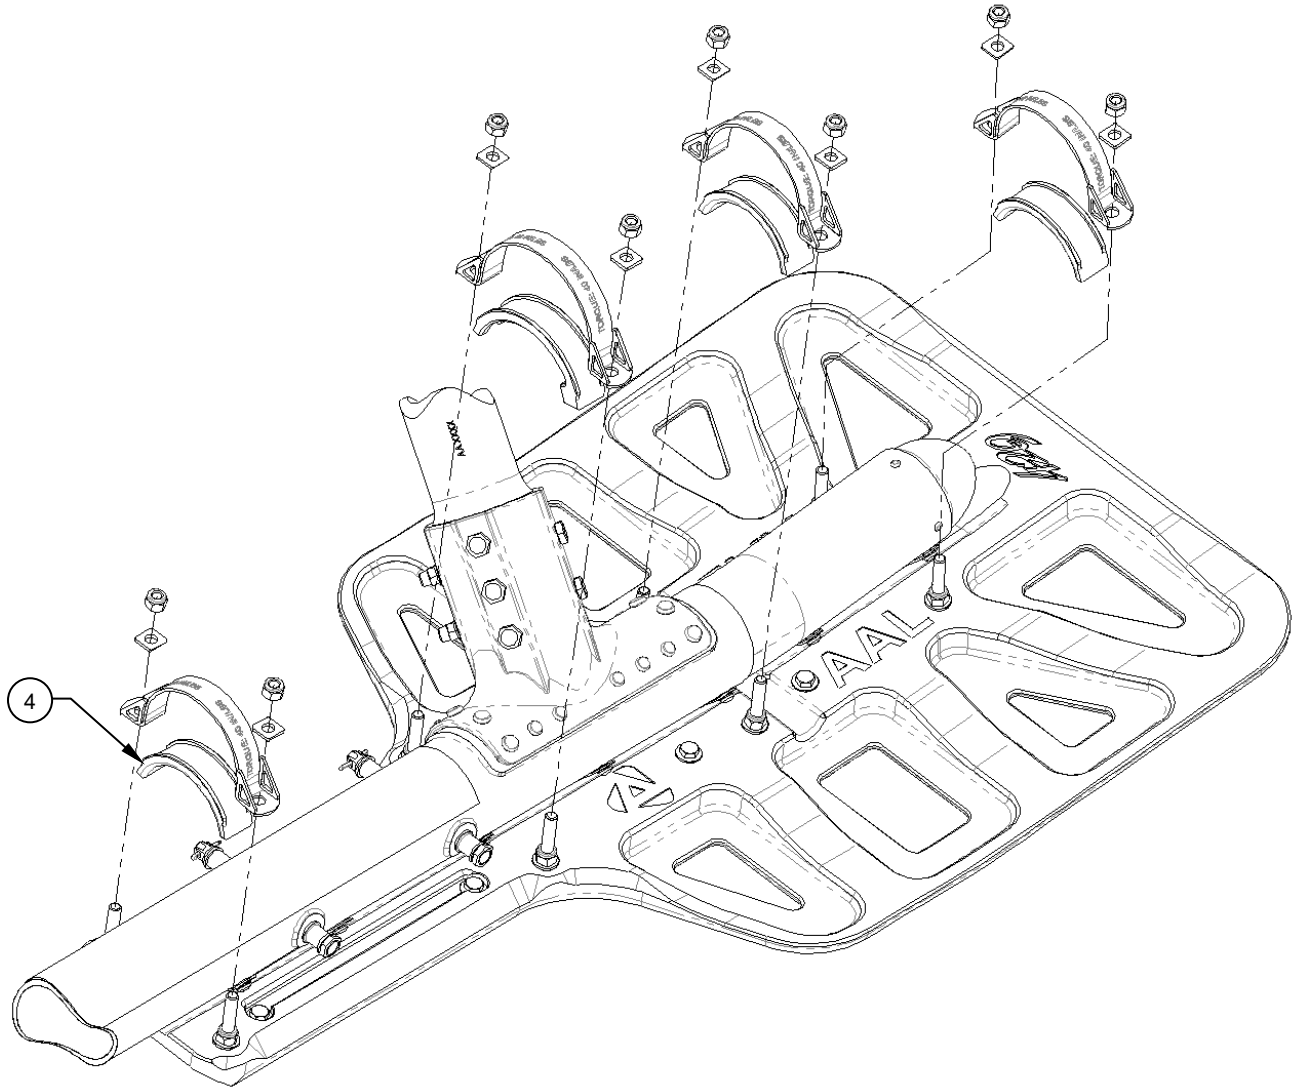

Figure 1
1. Install the Bear Paw Assy, Kit (Item 1) first as per AAL-490-015-701 Section 3. Reference Figure 1.
- 2. One variation of the standard install is to be made. Reference page 11 of 20 in AAL-490-015-701 Section 3, remove the Cap, Detail (Item 2) and replace it with Cap, Detail (Item 4). Reference Figure 1.